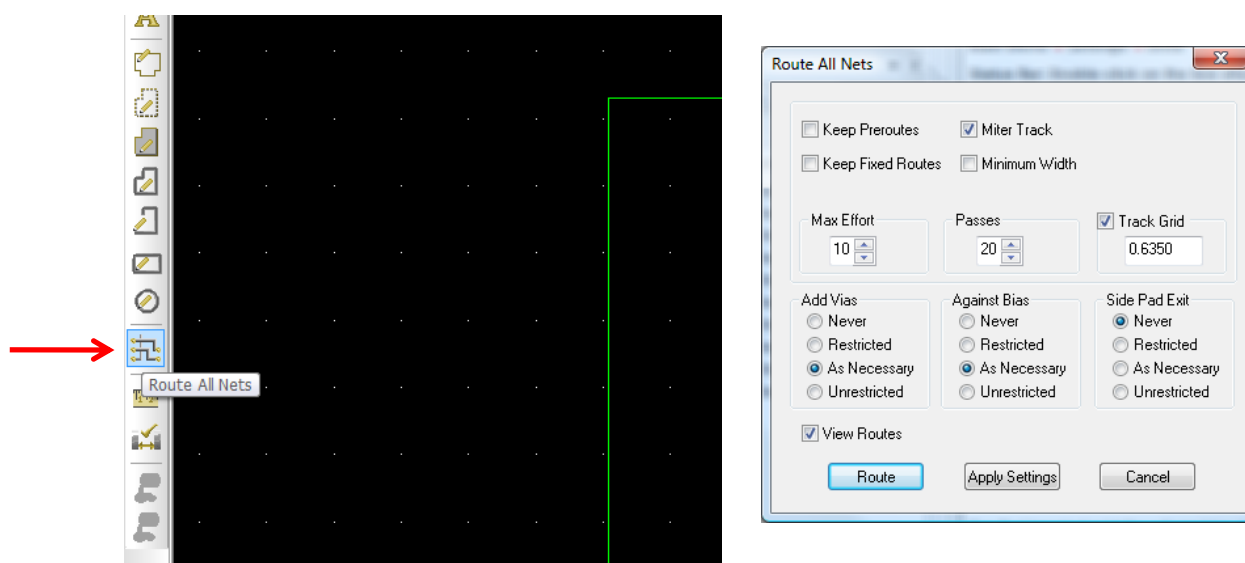

Figure 6-13: Auto-Routing the PCB
11. Select the “Route All Nets” icon as shown in Figure 6-13, which will result in the pop-up screen as shown on the right.